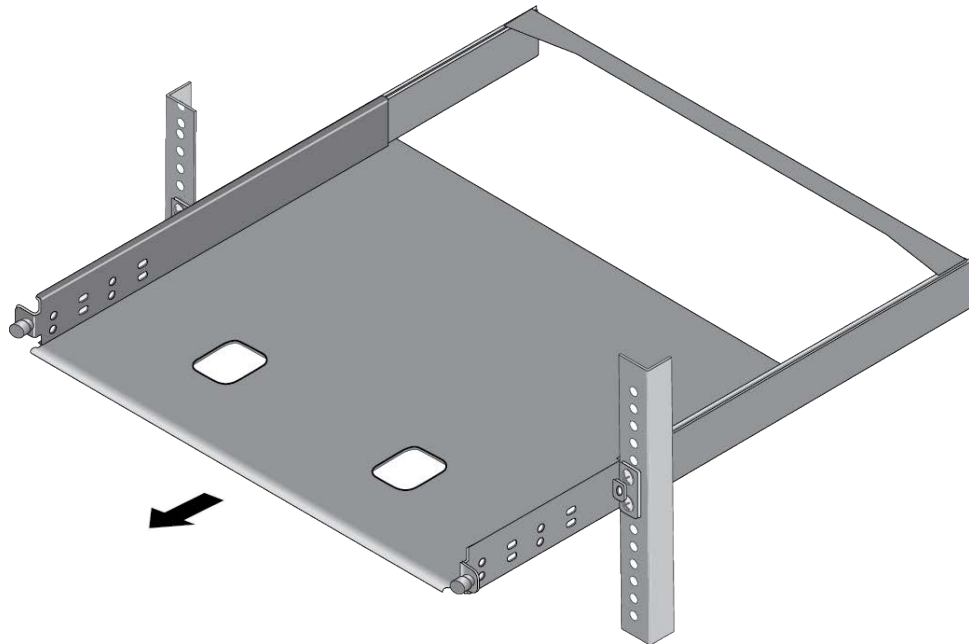

Figure 38. Sliding Out the Tray from the RKMT-J15 Bracket
3. Slide out the bracket tray. Refer to Figure 38.